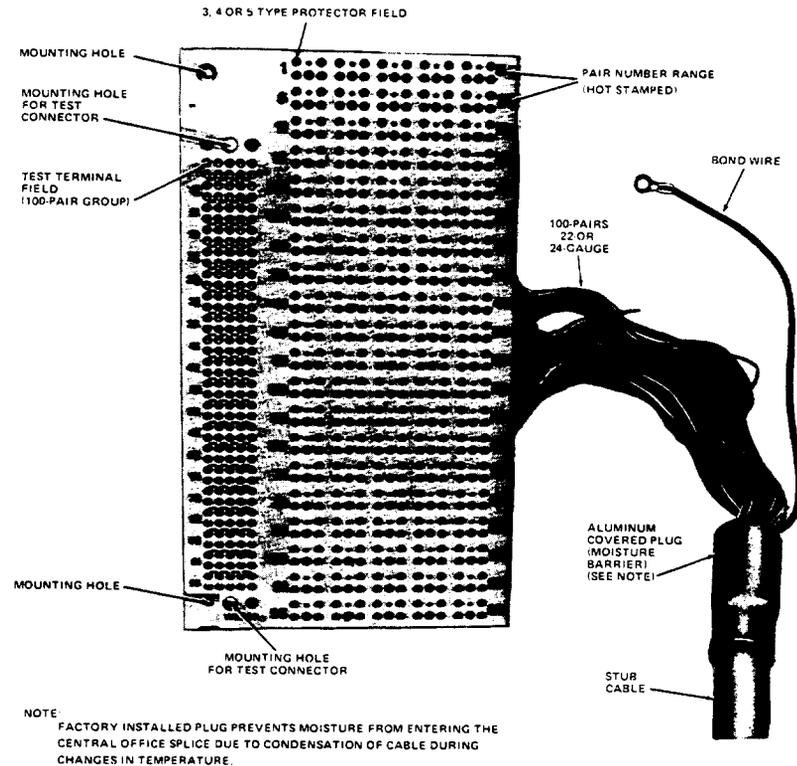

Figure 21—308-Type Connector for Use on High Density Modular Protector Frame
6.05 The 308A1, B1, or E connector (Figure 21) is used to terminate outside plant cables on the high density modular protector frame (ED-97898-31),